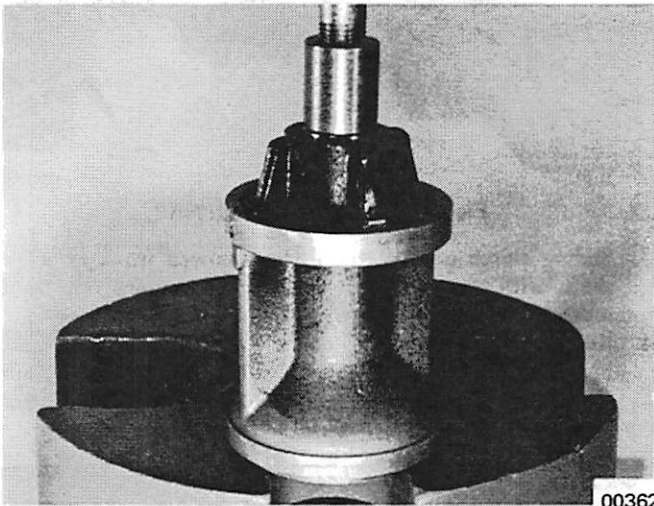

Figure 10. Installing Roller Bearings in Carrier
1. Press or tap roller bearing into bearing carrier from rear of housing with Driver Head (C-91-37311). (Figure 10)